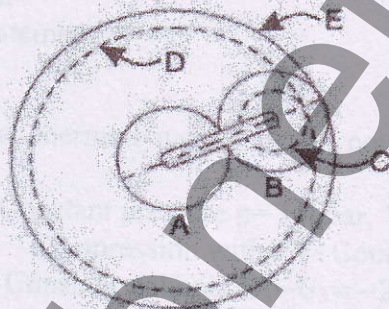

Fig. 3
- (A) What do you understand by gear train? Discuss various types of gear trains. [6]
(B) Fig. 3 shows an epicyclic gear train. Pinion A has 15 teeth and is rigidly fixed to motor shaft. The wheel B has 20 teeth and gears with A and also with annular fixed wheel E. Pinion C has 15 teeth is integral with B (B-C are compound gear). Gear C meshes with annular wheel D, which is keyed to machine shaft. The arm rotates about the same shaft on which A is fixed and carries the compound wheel B, C. If the motor runs at 1000 rpm, find the speed of machine shaft. [5]